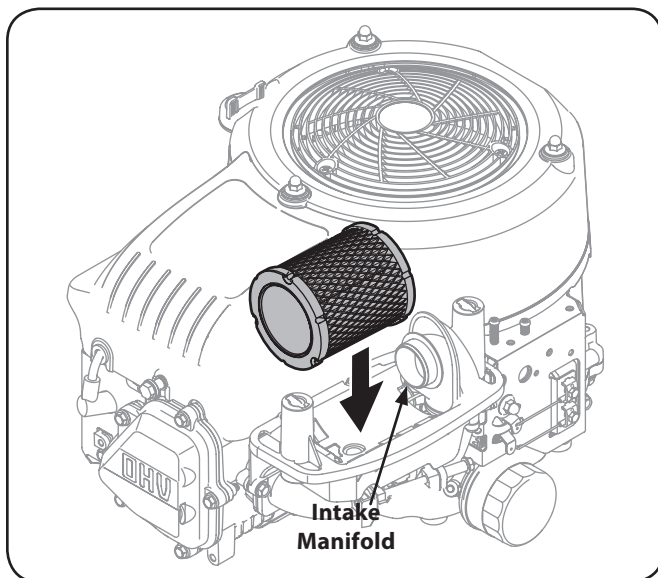

Figure 6-7
6. Attach the new air filter with foam element, aligning the hole in the air filter with the intake manifold. See Figure 6-7.